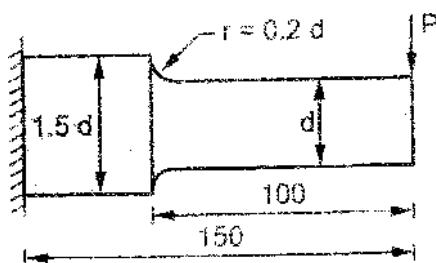

Fig. 2
6. A cantilever beam made of cold drawn steel 40C8 ( $S_{ut} = 600 \text{ N/mm}^2$  and  $S_{yt} = 380 \text{ N/mm}^2$ ) is shown in Fig. 2. The force  $P$  acting at the free end varies from  $-50 \text{ N}$  to  $+150 \text{ N}$ . The expected reliability is 90% for which the reliability factor is 0.897. The surface finish factor and size factor are 0.77 and 0.85 respectively. The notch sensitivity at the fillet is 0.9 and theoretical stress concentration factor is 1.44. If the factor of safety is 2, determine the diameter 'd' by using modified Goodman diagram.